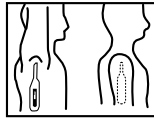

Figure 3
**Axillary Use:** Wipe armpit with a dry towel. Place the probe in the patient's armpit (Figure 3) and keep the patient's arm pressed firmly against the body. In order to achieve a better axillary reading, a minimum measuring time of 90 seconds or longer is recommended, depending on placement of the probe and closure of the arm against the body.